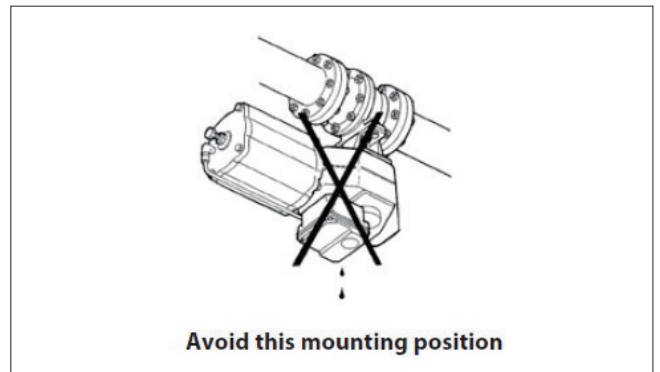

Fig. 5 Avoid this mounting position
5. It is not recommended to install the valve with the stem on the underneath side because dirt in the pipeline may then enter the body cavity and potentially damage the stem packing (see Figure 5).
The valve may be installed in any position and offers tightness in both directions except shown in Figure 5.